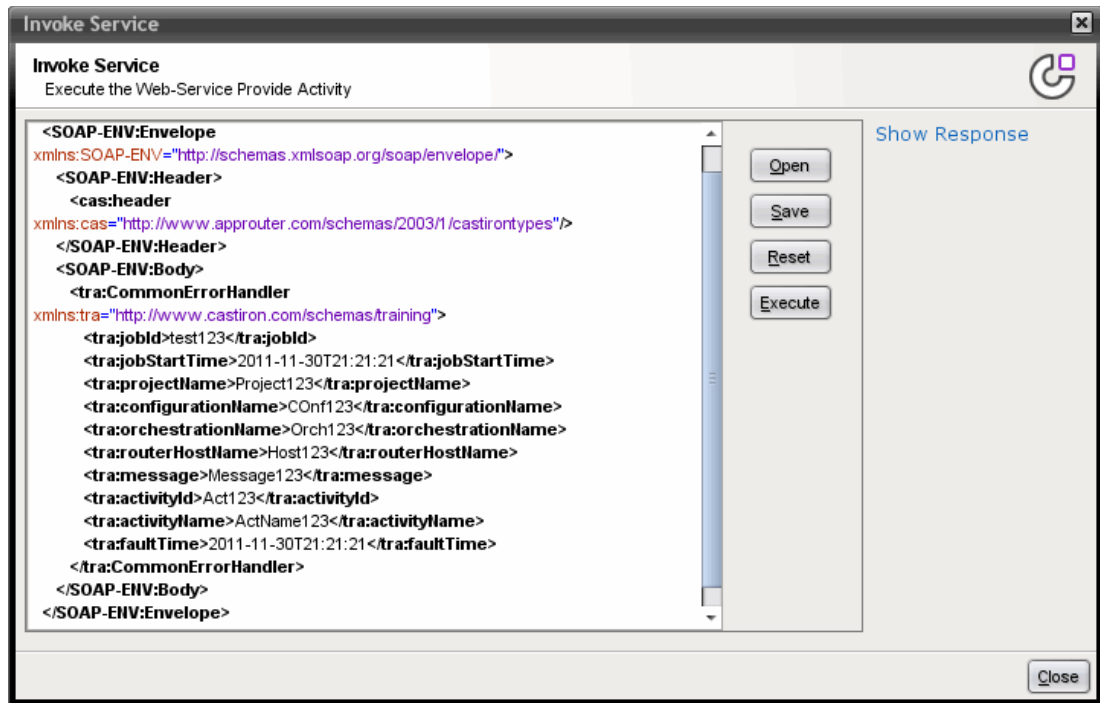

Figure 7-32 Invoke Service input
- b. Enter test values in the fields, as shown in Figure 7-32, and click **Execute**.